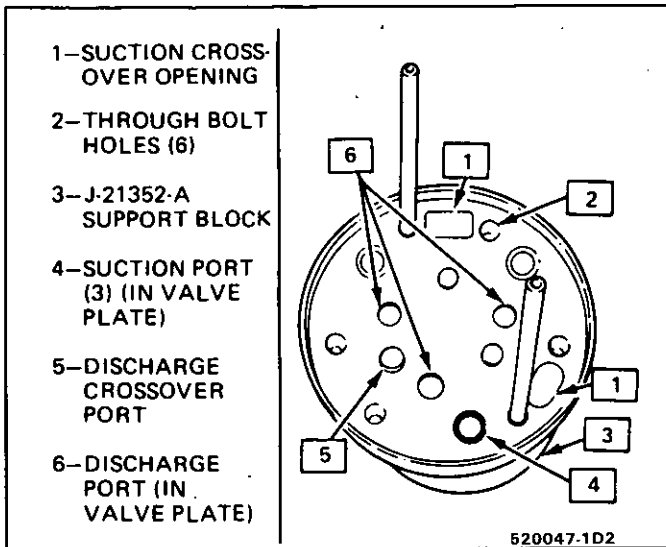

Fig. 46 Rear Valve Plate Installed In Rear Head
4. Assemble the rear valve plate over the guide pins and lower plate into position (Fig. 46).